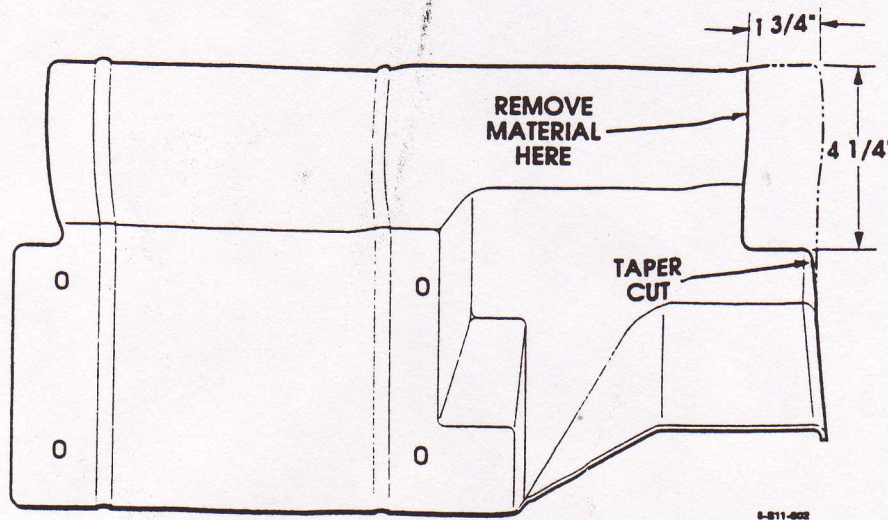

Figure 21: Stone Shield Modification.
79. The supplied stone shield must be cut to specifications as shown (See Figure 21).